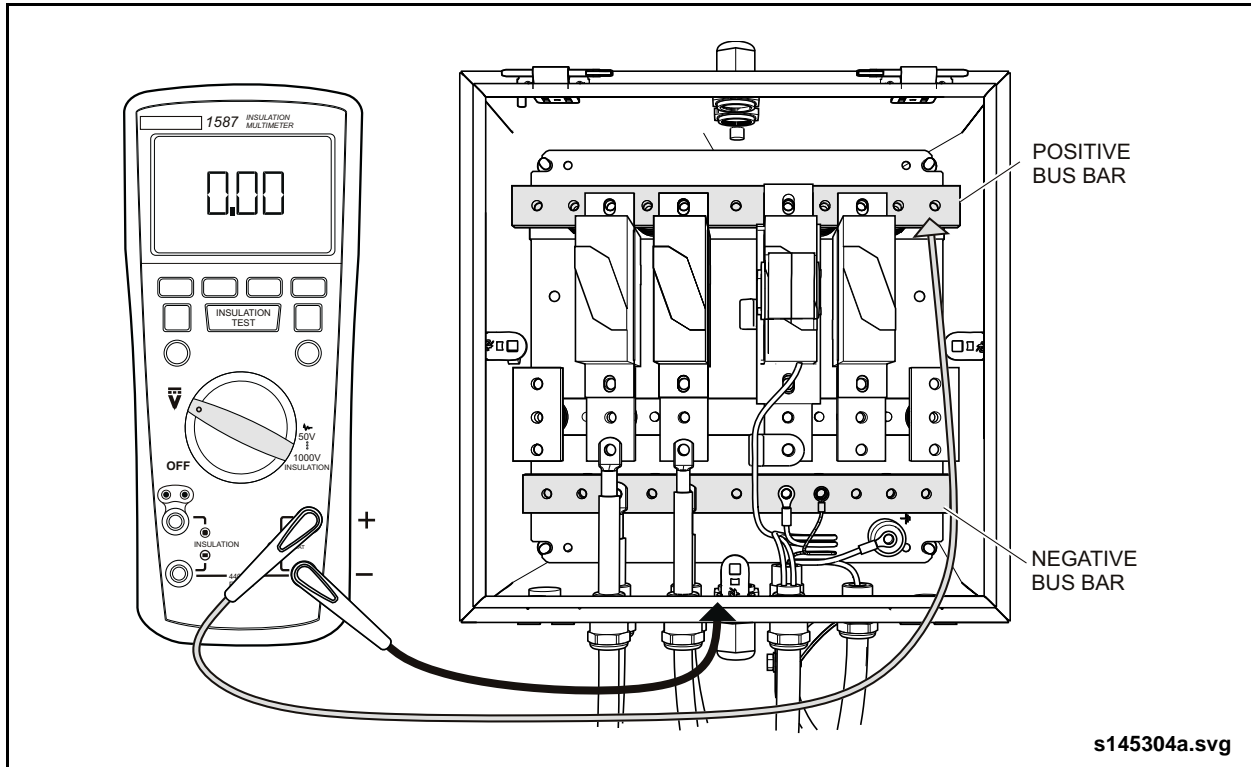

Fig. 4: High Voltage Verification - 2
- b. Measure from the positive bus bar to the grounded enclosure or roof rack structure. See “Fig. 4: High Voltage Verification - 2” on page 5.